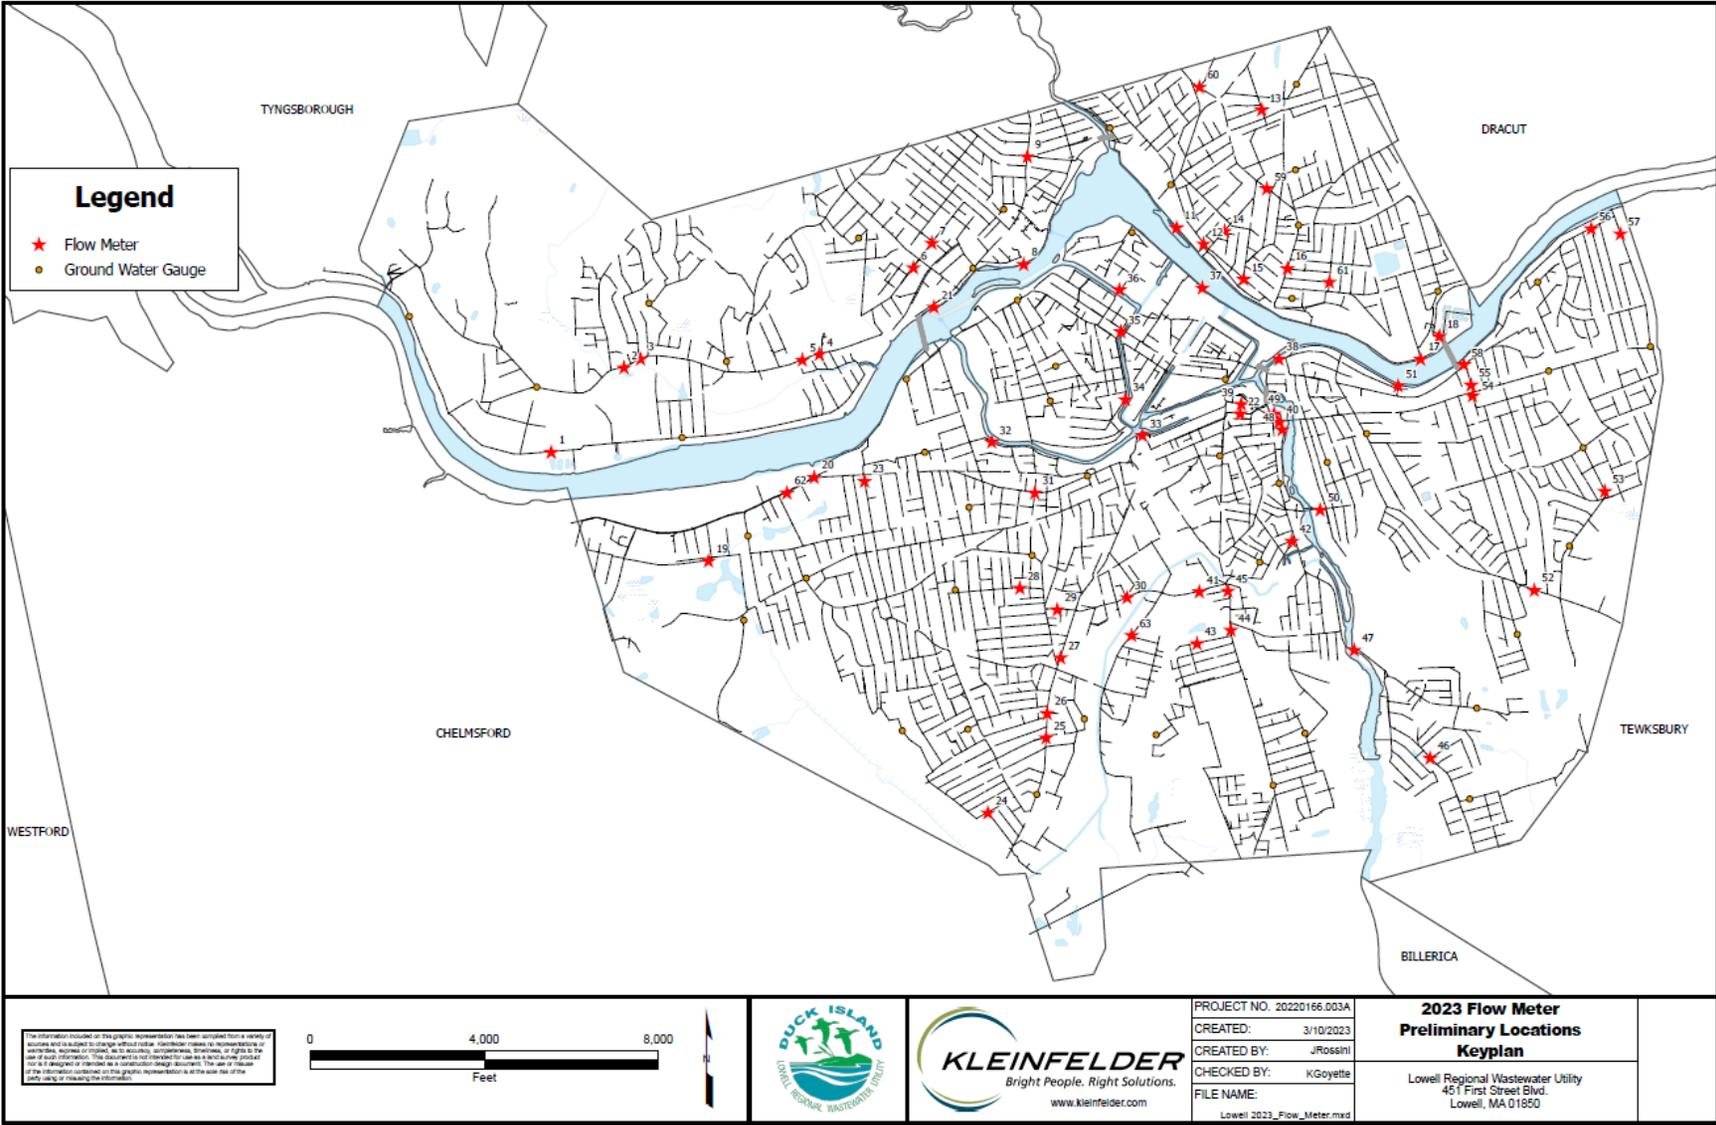

Figure 5. 2023 City-wide Flow Metering Program Monitoring Areas
*Figure 5* provides an overview of the collection system divided into metering areas. Additional maps detailing the scope and sub-areas to be investigated as part of this effort can be found in *Appendix C*.